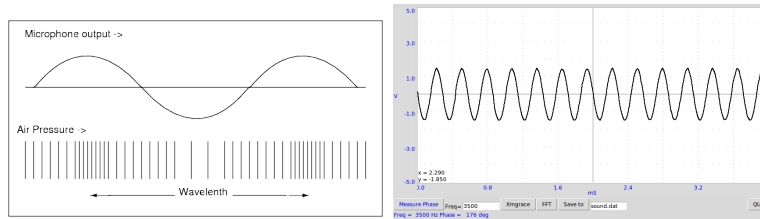

Figure 5.2: (a) Propagation of sound waves, variation of microphone output with pressure. (b) Output of microphone
**Objective** Calculate the velocity of sound by measuring the pressure variation with distance. Sound travels as a series of compressions and rarefactions. Figure 5.2(a) shows the High and Low pressure regions along the direction of travel, along with output of a pressure sensor at corresponding positions.